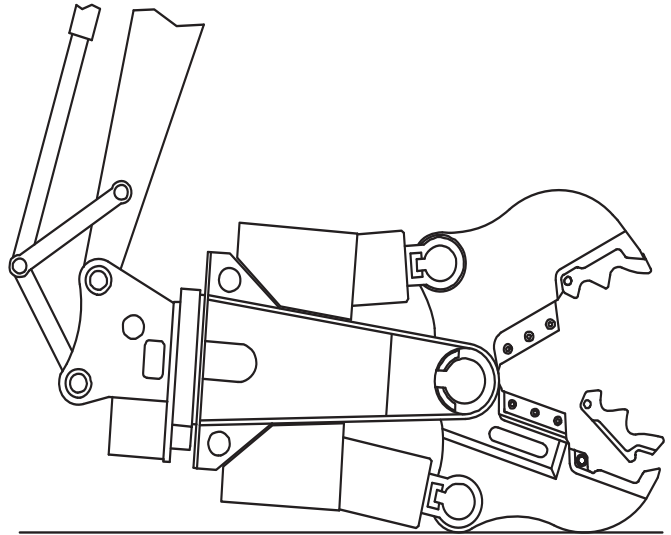

FIGURE 7-4
1. Curl the attachment under and lay it down flat on a firm and level surface with the jaws open (figure 7-4). Turn the base machine off. Make sure that the attachment and jaws are stable and will not drop or close.